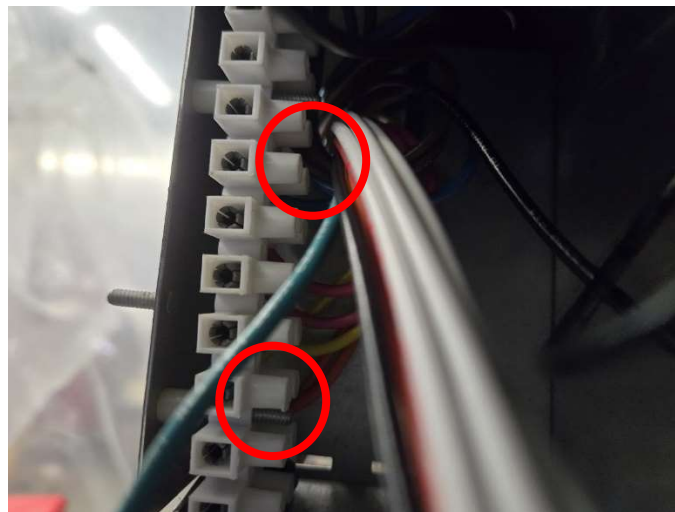

Figure 9: Wing Nut Locations Holding the Terminal Block in Place
6. Remove the wing nuts from the screws holding the terminal block in place as shown in Figure 9.